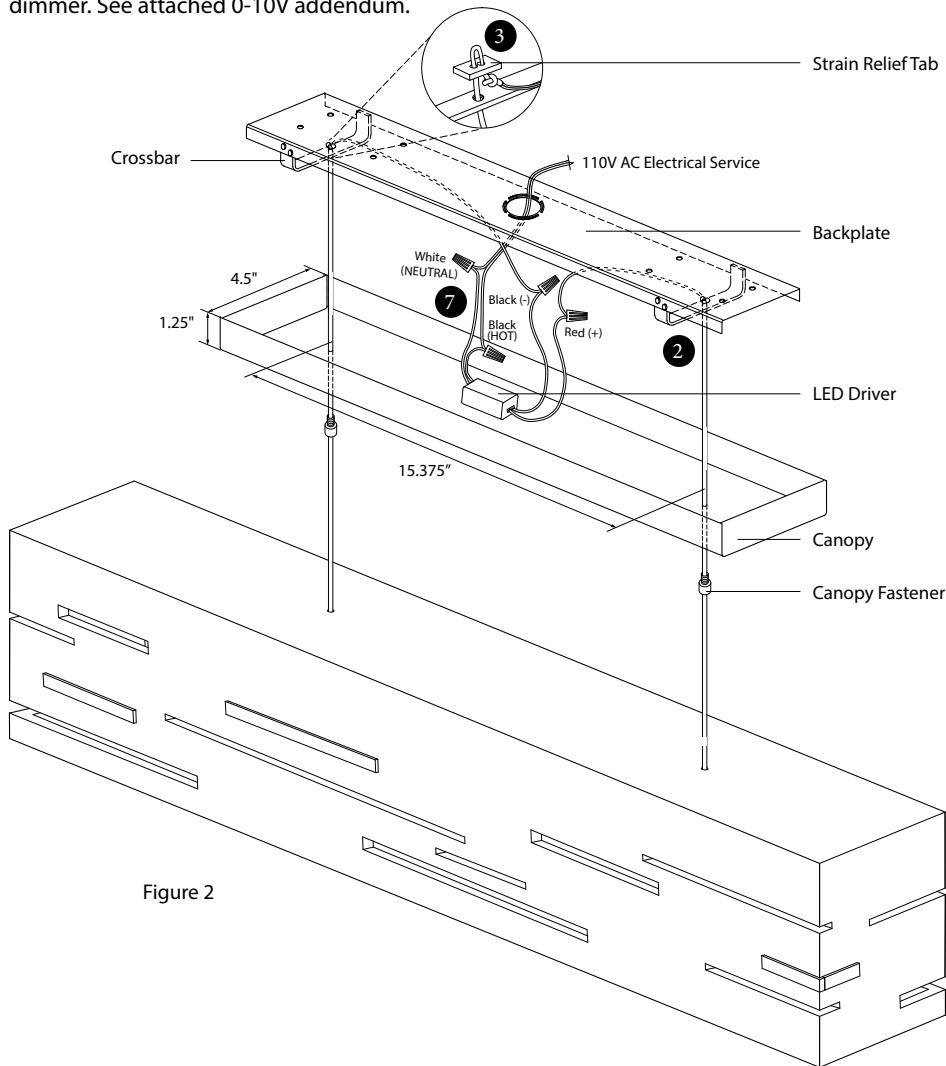

Figure 2
- 1 Measure the desired height (H) that you want the fixture to hang below the ceiling.
- 2 Thread the cables through the canopy fasteners, canopy, and crossbars. (See Figure 2)
- 7 Make electrical connections as shown in figure 2 using the supplied wire nuts.